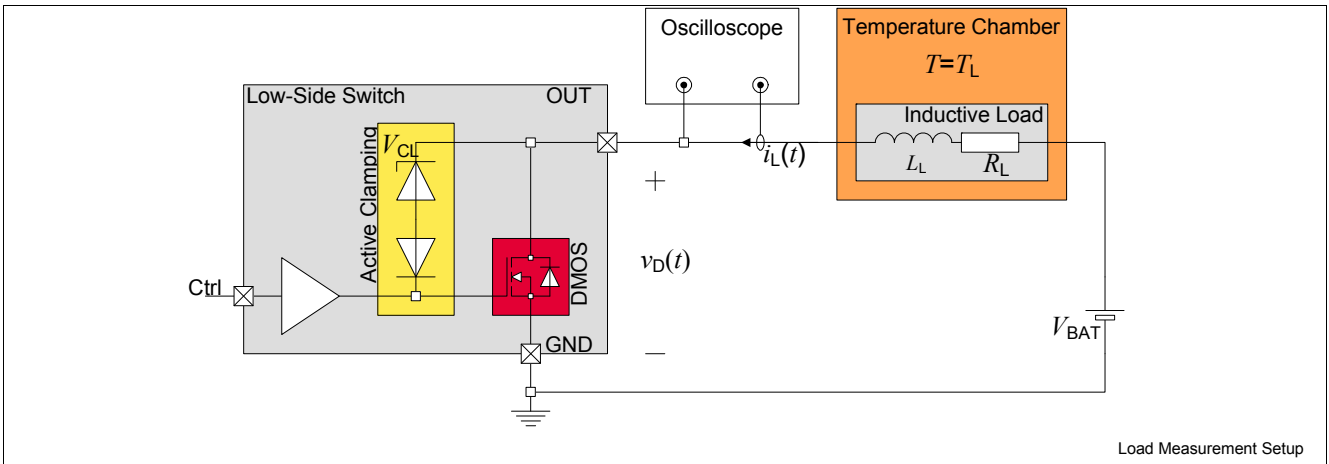
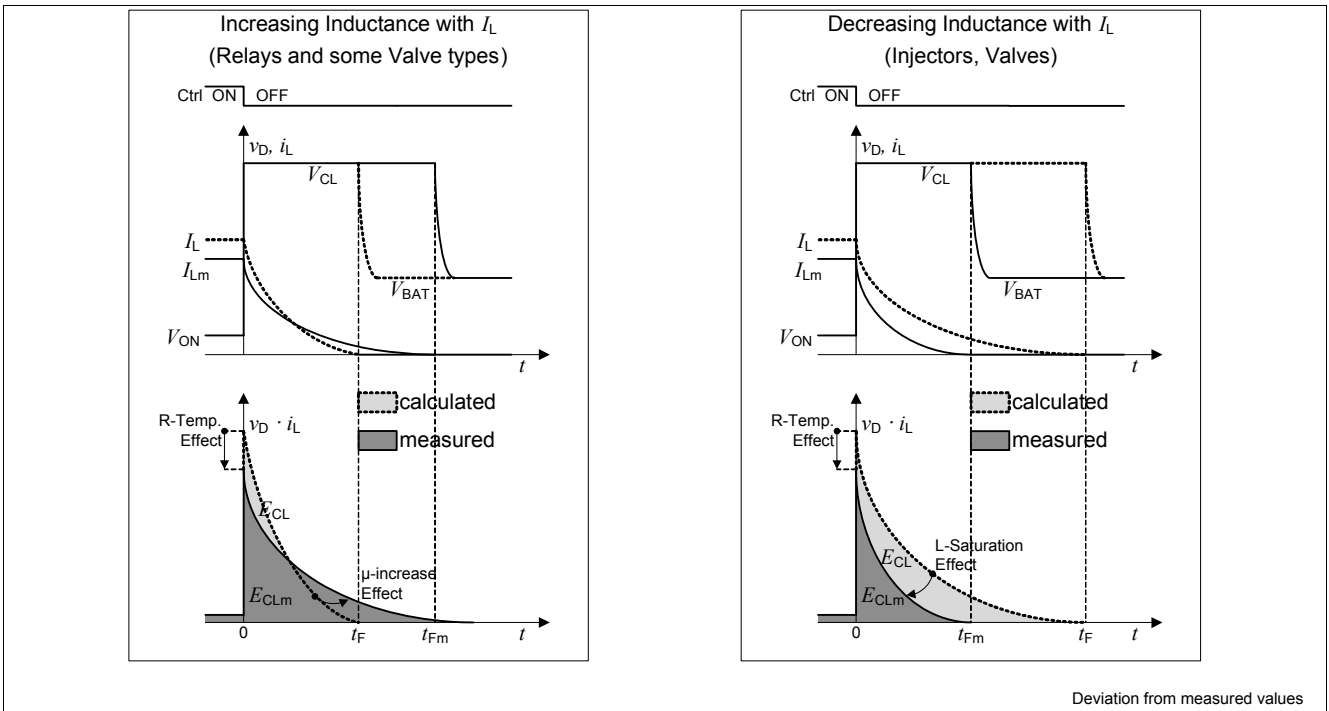

Figure 9  $E_{CL}$  measurement setup
Figure 10 Deviation of calculation from measurement
**Attention:** *It is strongly recommended to measure the load Energy and Current under operating conditions, example of measurement setup is shown in Figure 9. Load small-signal parameters might not reflect the real load behavior under operating conditions, see Figure 10. For more details please refer to the Application Note “Switching Inductive Loads”.*